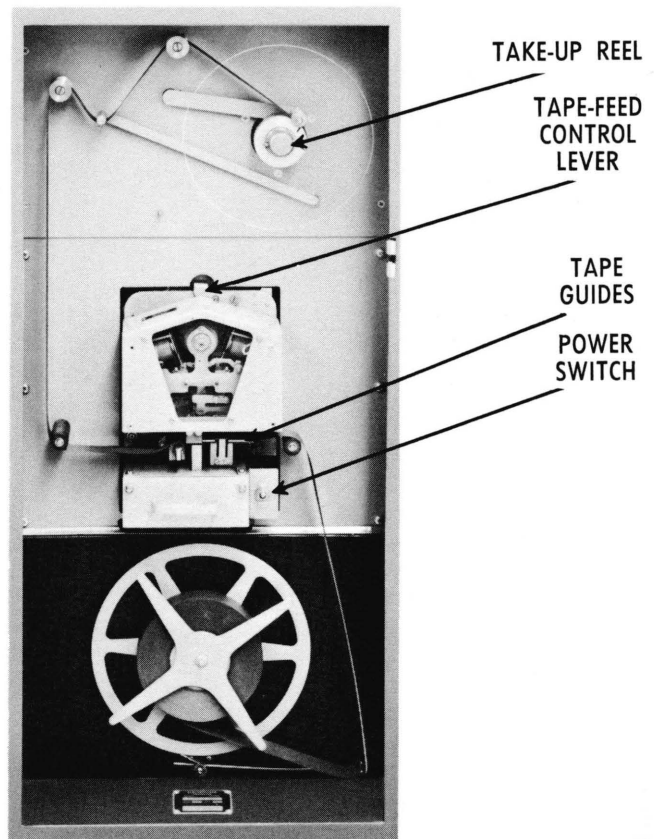

Figure 4-5. High-Speed Paper-Tape Punch.
4-22. The High-Speed Paper-Tape Punch (figure 4-5) operates through the Control Console to reproduce information from the A register of the Burroughs 205 in paper tape. It punches information at the rate of 60 characters per second. Tapes so produced can be used as input tapes to:
3. Mount the roll of paper tape on the lower hub and thread the tape up to the punch mechanism as shown in figure 4-5.
6. Thread the tape over the guides to the take-up reel (figure 4-5). If no take-up reel is to be used, the tape will fall freely on the output side of the punch mechanism.